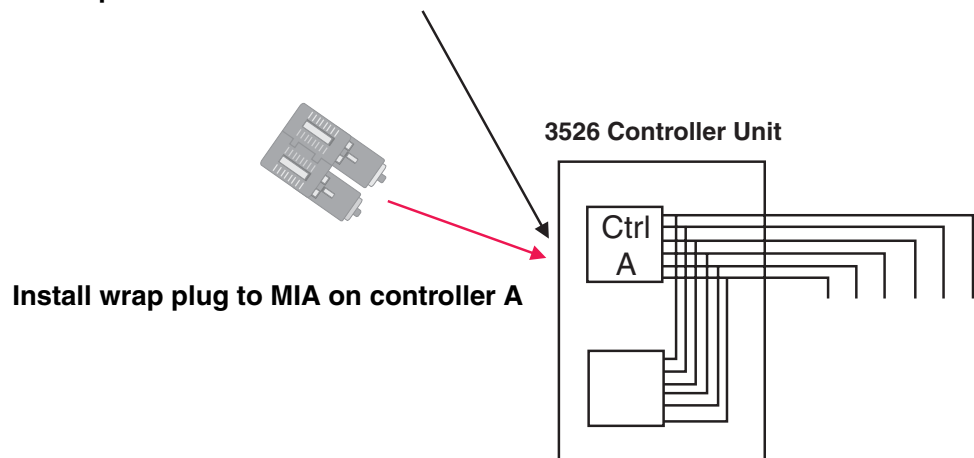

Figure 33. Install wrap plug to MIA on controller A
- a. For a Type 3526 RAID controller, install a wrap plug to the MIA on controller A. See Figure 33.